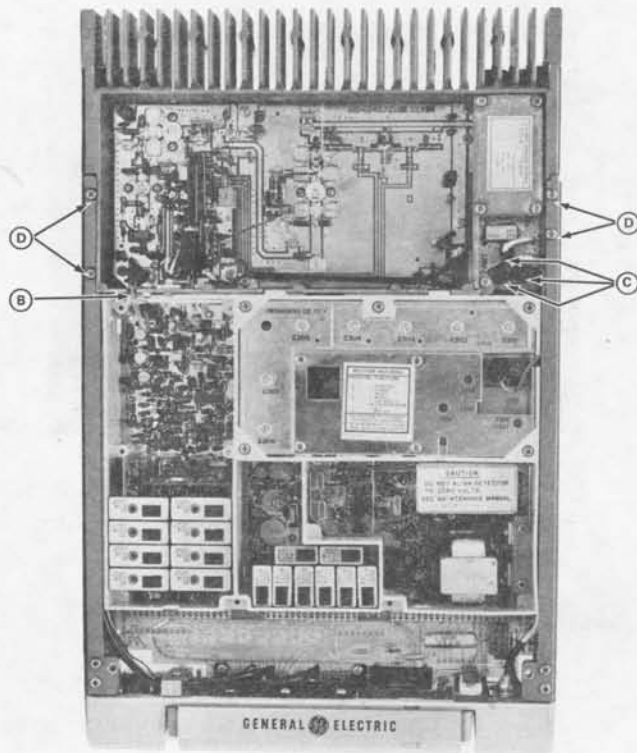

Figure 2 - Disassembly Procedure
2. Remove the top cover, then loosen the two bottom cover retaining screws and remove the bottom cover (See Figure 2).
1. Unplug the exciter/PA cable (B). (Figure 2).
To remove the PA assembly: (See Figure 2).